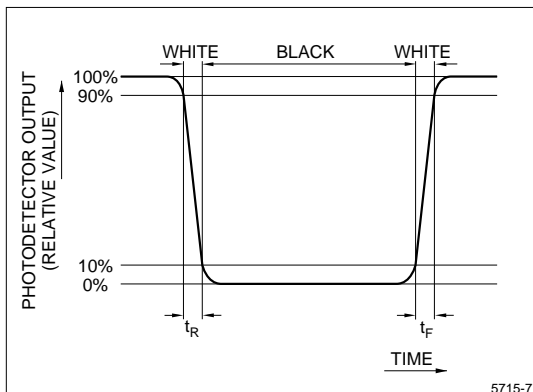

Figure 7. Definition of Response Time
- The Response Time is measured as shown in Figure 7 by switching the input signals for 'black' ON and OFF.